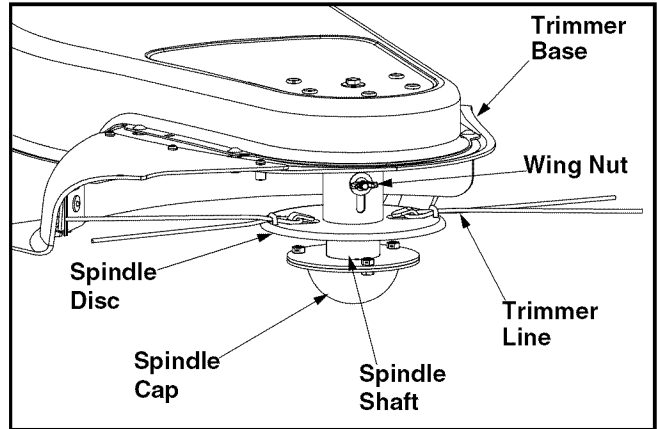

Figure 4
- The trimmer line is connected to the spindle disc, which can be raised or lowered. See Figure 4.